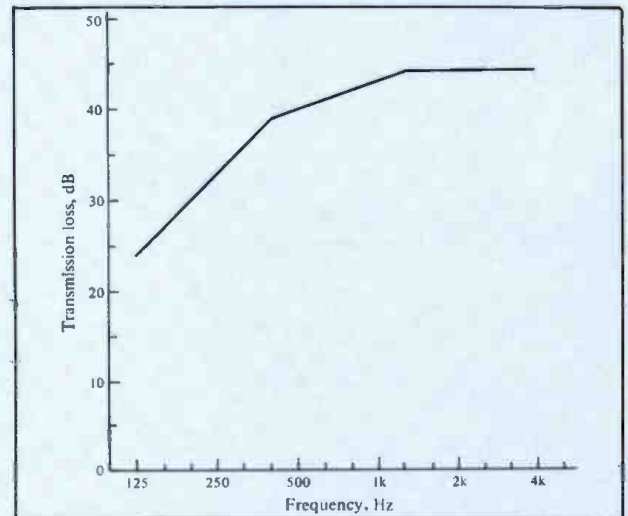

Figure 1. The standard STC contour.
The effectiveness of glass or other materials as sound barriers is measured by the sound transmission loss offered. A graph of transmission loss (TL) vs. frequency describes the effectiveness of such a barrier completely and accurately. It is convenient, however, to be able to represent such a graph by a single number. The arbitrary concept of Sound Transmission Class (STC)¹ is designed to do just that. An STC single number rating, while not perfect, is designed to correlate with subjective impressions of common noises penetrating partitions in homes and offices and is commonly applied to audio rooms as well. The standard STC contour, shown in FIGURE 1, reflects the lower sensitivity of the human ear to low frequency sounds. It can be readily plotted to any convenient scale by connecting the three following points by straight lines: 125 Hz/TL of 24 dB, 400 Hz/TL of 39 dB, and 1250 Hz/TL of 44 dB. The measured transmission loss of the barrier is plotted against frequency, and the standard STC contour, plotted as an overlay to the same scale on tracing paper, is adjusted vertically until the following conditions are fulfilled for the 1/3 octave points from 125 Hz to 4 kHz: 1) the sum of the deviations below the contour at 1/3 octave intervals shall not be greater than 32 dB and 2) the maximum deficiency at any single 1/3 octave point shall not exceed 8 dB. When the contour is adjusted to the highest value that meets these requirements, the STC of the barrier is the TL value corresponding to the intersection of the contour and the 500 Hz ordinate.